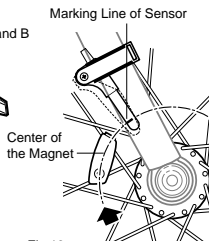
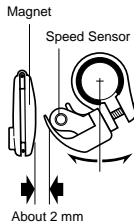

Fig. 18
Fig. 19
3. Align the magnet's center and the sensor's marking line (Fig. 18), and clearance between the magnet and the sensor should be 2mm (Fig. 19). Then tighten the screw securely. Cut off the excess of the sensor band B.